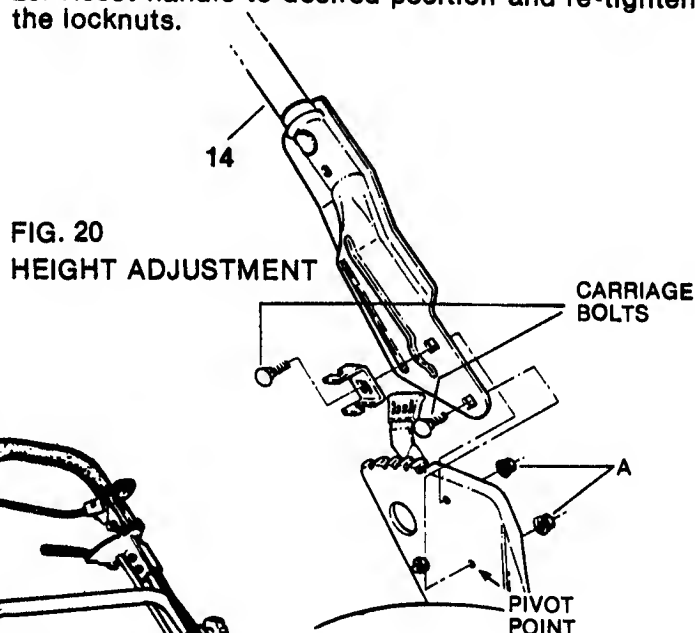

FIG. 20
To raise or lower handle (14), loosen the adjusting locknuts (A) on both sides of handle shown in FIG. 20. Reset handle to desired position and re-tighten the locknuts.